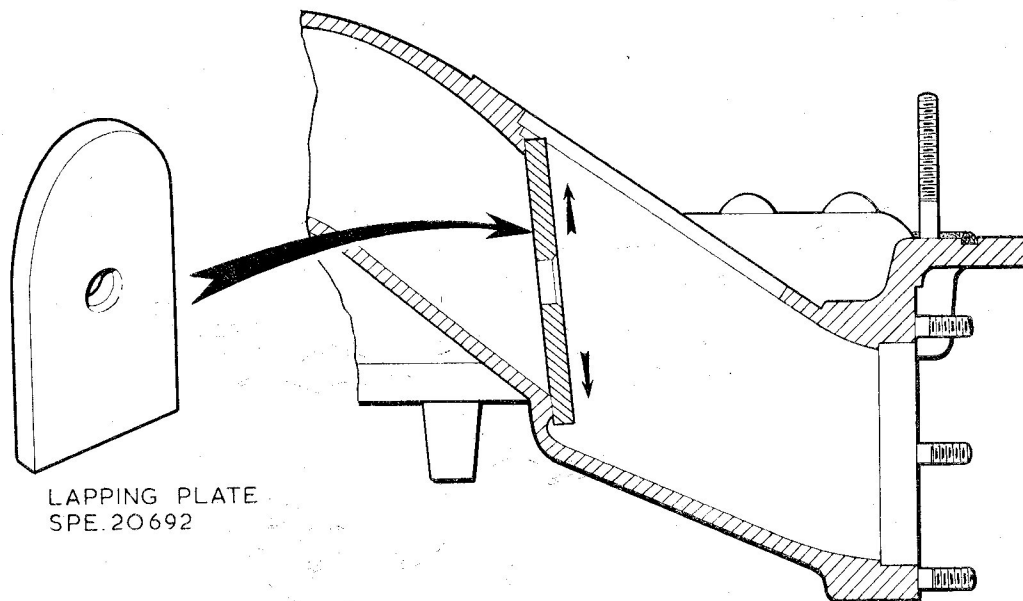

Fig. 11. Valve seat lapping
- (f) Assemble the ring (124) to the groove. Feed the ring into the groove by short lengths, but do not stretch the rubber. **DO NOT LET THE CEMENT CONTAMINATE THE SEALING EDGE OF THE SEAL.**
- (3) Using the special lapping plate SPE.20692 (fig. 11) and fine grinding